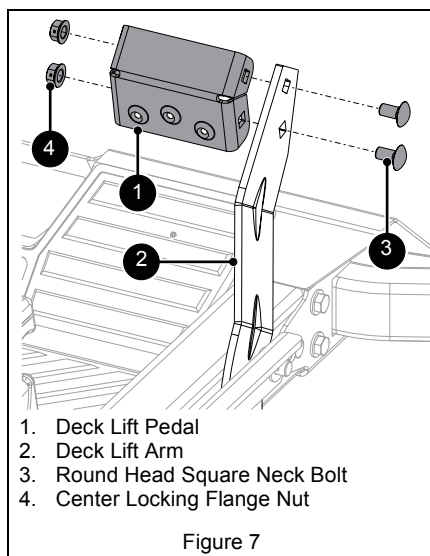

Figure 7
See Figure 7.
2. Rotate pedal as shown in Figure 7 and secure to unit with hardware removed in step 1.